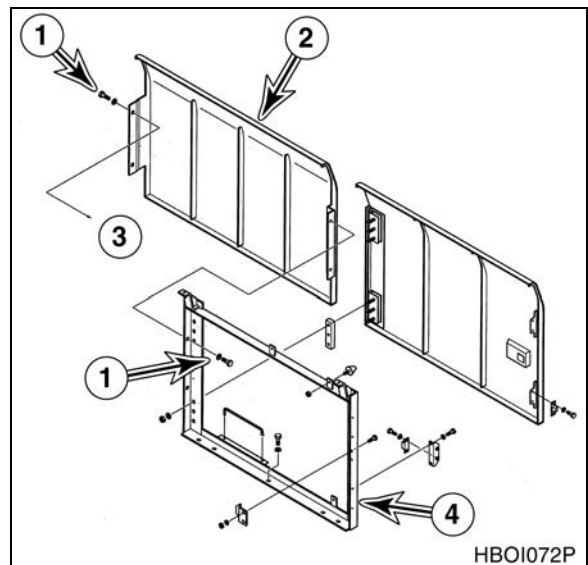

Figure 10
- Remove four bolts and washers (1, Figure 10) and cover (2) from fuel tank (3) and support (4).